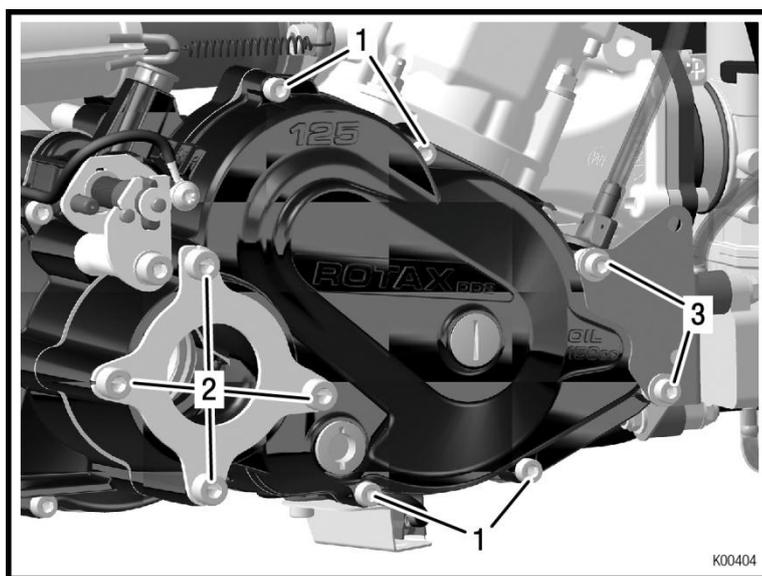
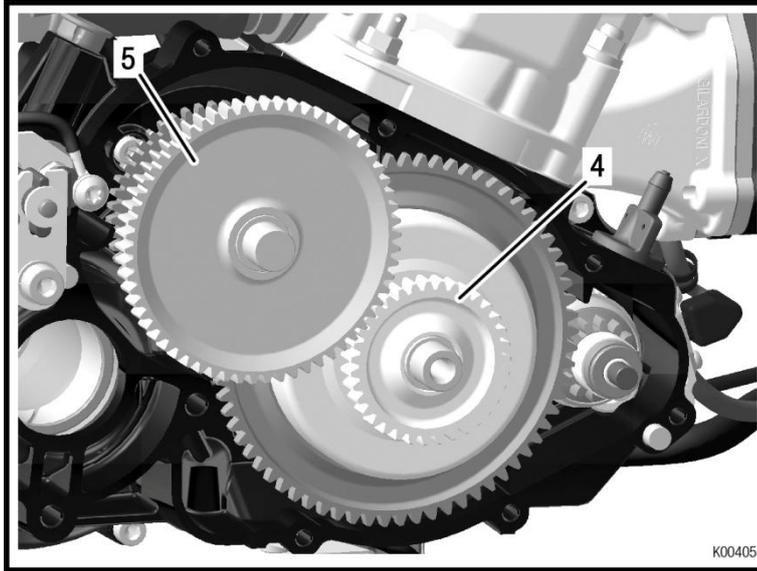

Fig. 3
Fig. 4
See Fig. 3 and Fig. 4.
- ➔ Remove the primary drive gear (pos. 4) and secondary gear (pos. 5) and fit the gear pair of your choice (Fig. 4).